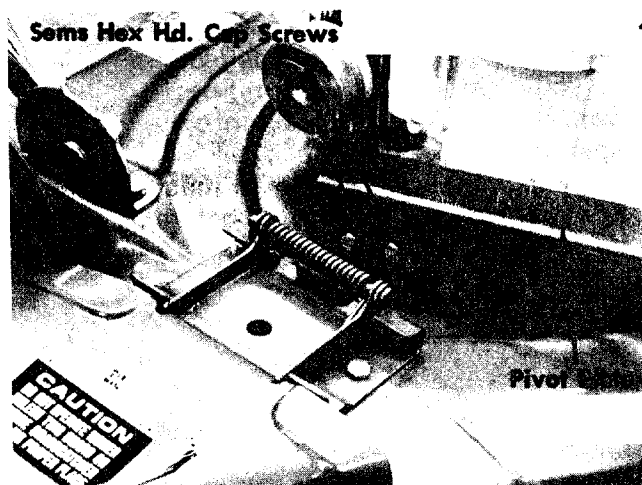

FIGURE 1.
1. Loosen (do not remove) two hex head cap screws. See figure 1.